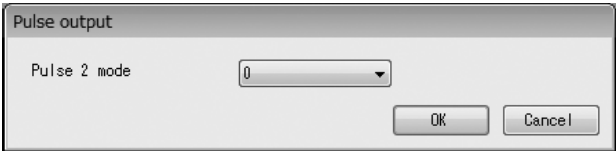

Fig. 3-36
- (1) Click "Setup (S)" from the menu, and then click on "Pulse output" from the drop-down list of "Outputs".
- (2) The following window (Fig. 3-36) will be displayed. Here, set the mode of pulse output.